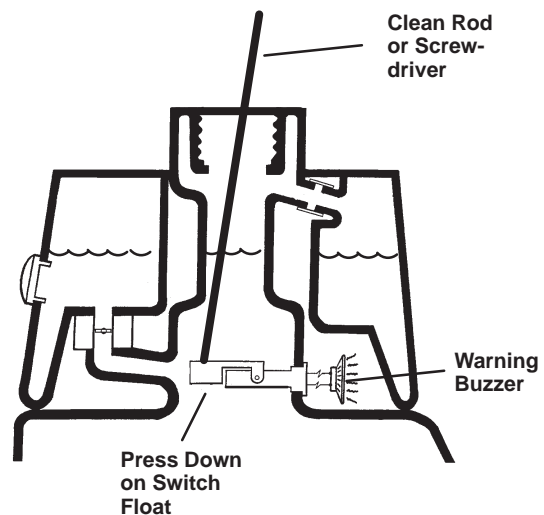

Figure 26
3. Insert a clean rod or screwdriver into the tank neck and gently push down on the switch float (Fig. 26). The alarm should sound after the one-second delay.